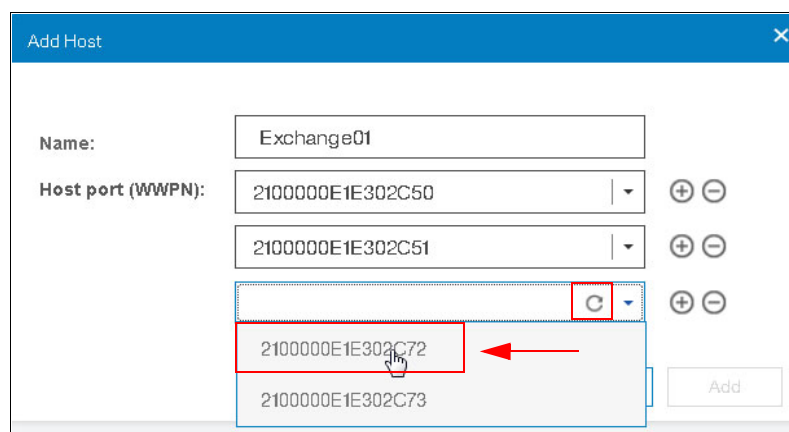

Figure 6-97 Adding ports to the new host (the refresh icon is highlighted)
Enter the name Exchange01 for the new host and click the arrow at the right side of Host port (WWPN) entry field to select the WWPNs for your Exchange server. Any WWPNs that are zoned to the system but not in use by a configured host are displayed, as shown in Figure 6-97.
**Tip:** To refresh the list of WWPN, click the refresh icon, which is highlighted in Figure 6-97.